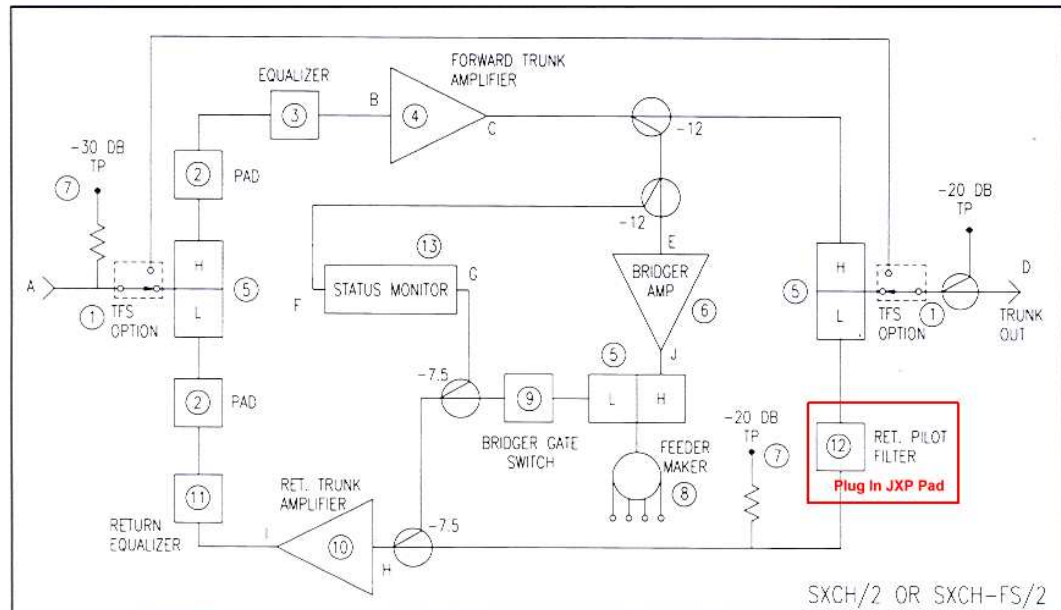

Figure 3
3. Add a plug in pad in the location where the Notch Filter Jumper is located and attenuate the trunk return signals to be equal to the bridger return. (See Fig. 3) Additionally the return amp needs to have a noise figure of 4 dB to ensure that with a 18 dB return input and under the worst case scenario the